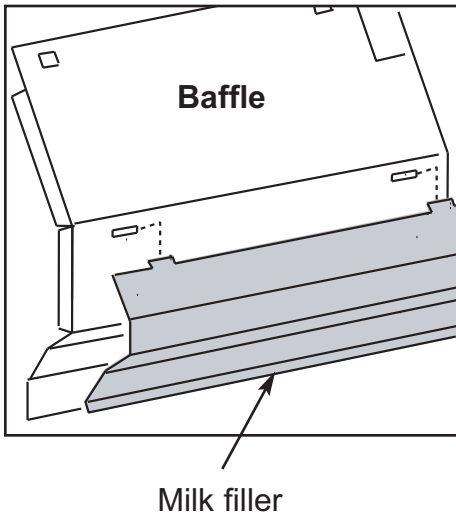

Figure 2.
- Install the 250 mL extrusion (815375). Slide this extrusion all the way down until the angle is flush with the column baffle. (Refer to Figure 2.)